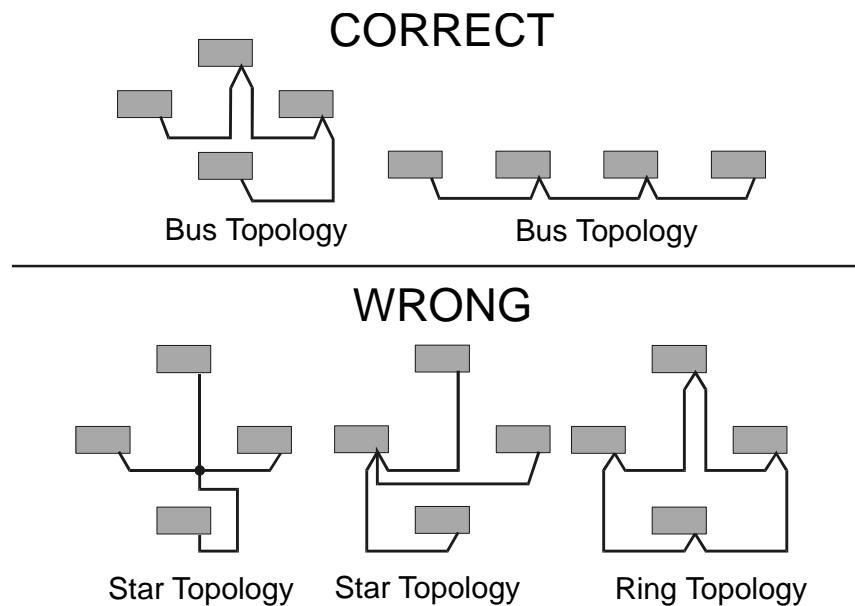

Figure A-1. Correct and Incorrect Bus Topology.
**A-4.1. GENESIS II COMMS WIRING TOPOLOGY.** Bus topology is produced by connecting from one device to the next and then on to the next (Figure A-1). A simple means to identify if bus topology is used is to check that: